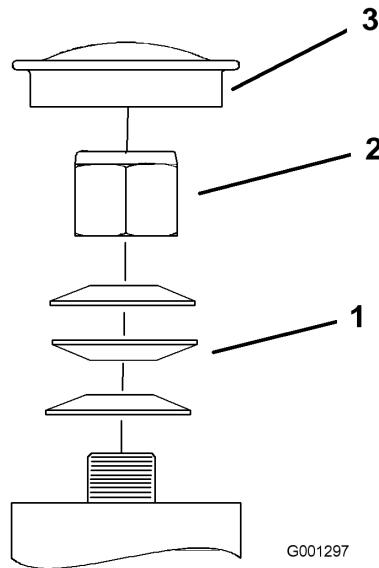

Figure 49
3. Remove the dust cap from caster and tighten lock nut (Figure 49).
4. Tighten the locknut until the spring washers are flat and then back off a 1/4 turn to properly set the pre-load on the bearings (Figure 49).
5. Install the dust cap (Figure 49).